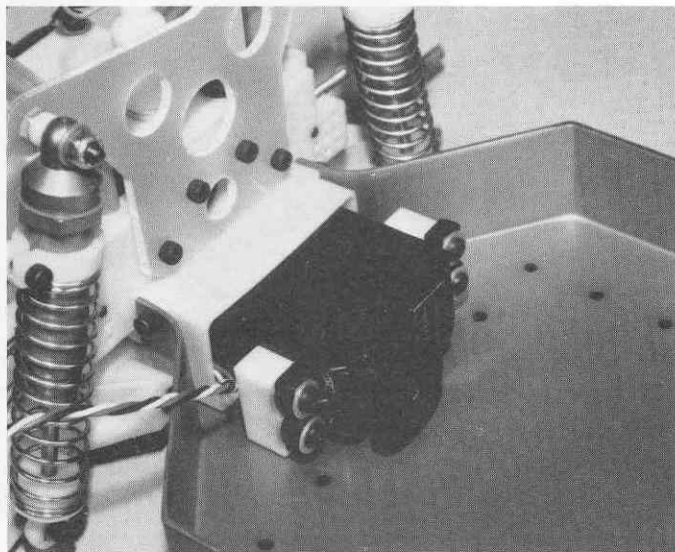

Fig. 159
□ **Fig. 159** Install the servo to the chassis as shown. It is important that the servo wheel clear the chassis by about 1/8" (3.1mm). Use washers under the mounts to achieve the required clearance. Also, some servos (the S28 for instance) are very deep and may bottom out against the bulkhead, making alignment with chassis holes difficult. In this case you should put washers between the mounts and the servo to space the servo away from the bulkhead.